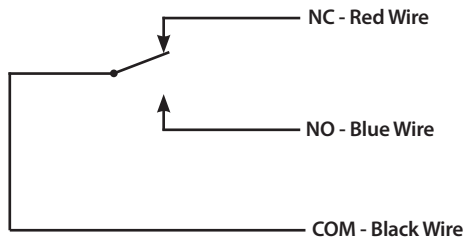
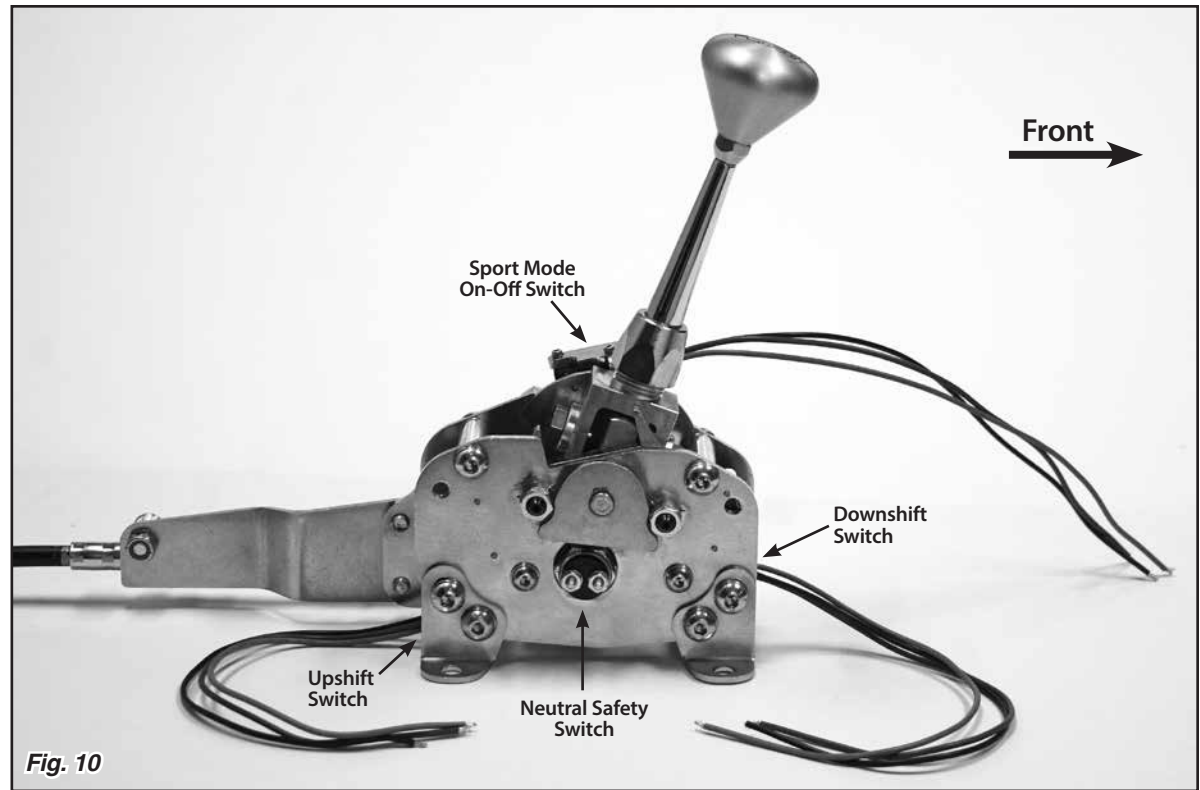

Fig. 9
Fig. 10
There are three identical shift switches on the Sport Mode Shifter, **Fig. 9 & Fig. 10** The switches are single pole double throw (SPDT) momentary switches, each with black, blue, and red wires. The red wire is connected to the normally closed (NC) terminal. The blue wire is connected to the normally open (NO) terminal. The black wire is connected to the common (COM) terminal.